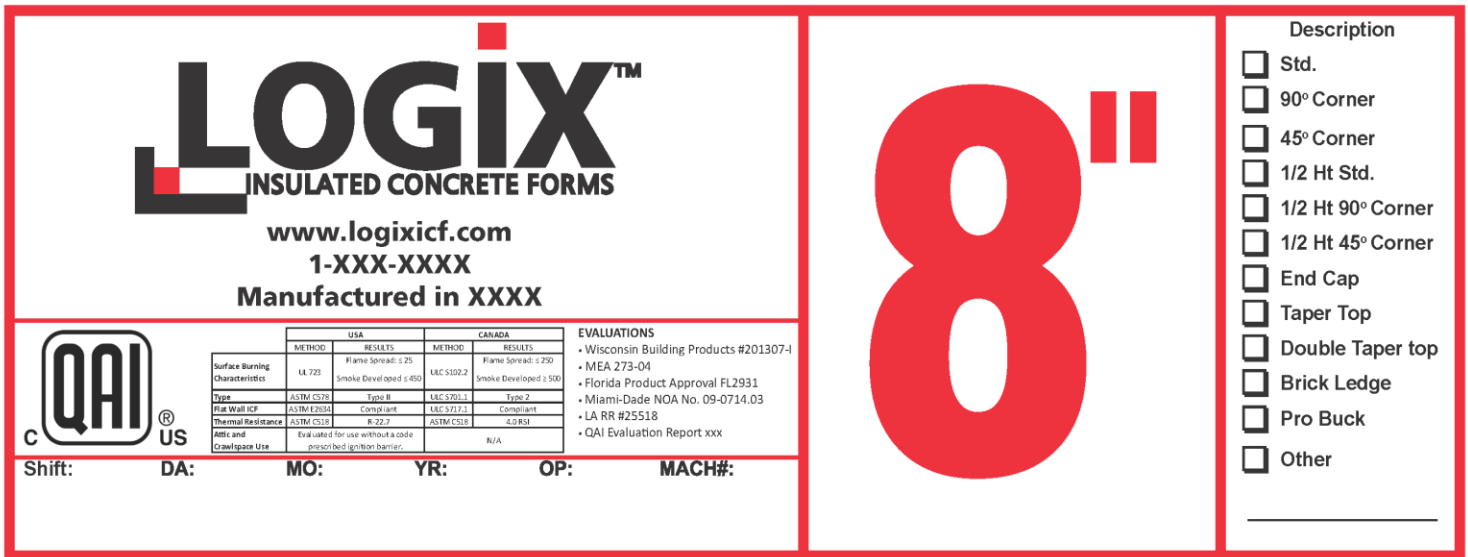

Figure 1. Example of Logix ICF Finished Product Label
- Labels at minimum 1 per location, or 1 label per 160 ft² exposed foam, which ever greater, is present outlining product as “*Approved for Use in Attic and Crawlspace*”. See Figure 1 of this report for an example of approved Logix ICF label.
Logix ICF finished products example label are outlined in Figure 1 below.